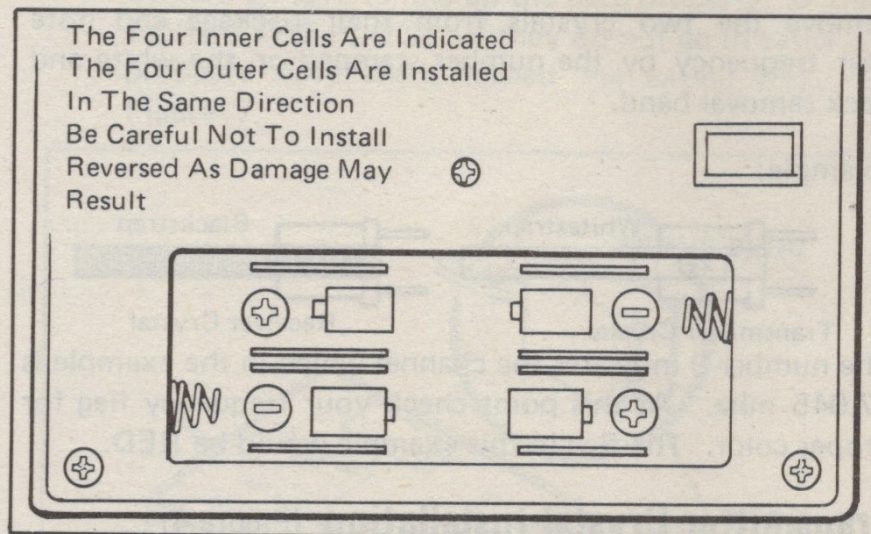

Figure 2.
2. Now install the 8 batteries as indicated in Figure 2. The negative end always goes toward the spring. Four inner cells first, then the four outer cells.